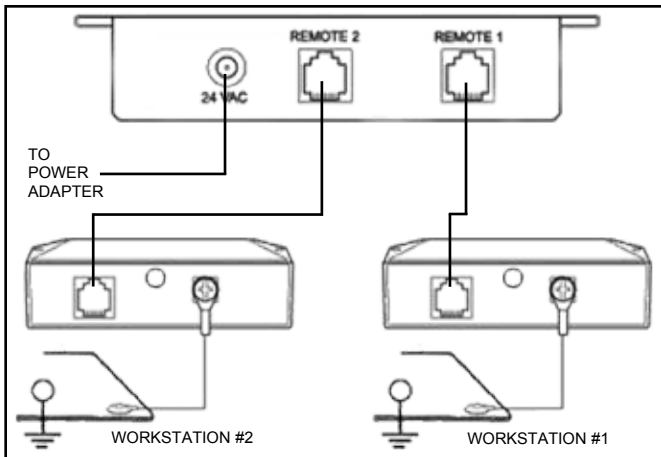

Figure 4. Wiring connection instructions for the 50516 / 50517 monitor control unit.
Figure 4 shows the monitor control unit as it is viewed from the rear, with the work surface wiring in place.
1. Use the rear phone jack connections and connect the Satellite Remote Units to the base unit with the phone cables. See Figure 4 for wiring connection instructions.
4. Confirm that worksurface surface resistance is  $1 \times 10E7$  ohms or less. Connect the ring terminal end of the worksurface cord included with the unit to the screw on the back of the satellite. Snap the other end to the worksurface grounding point as shown in Figures 4 and 5.